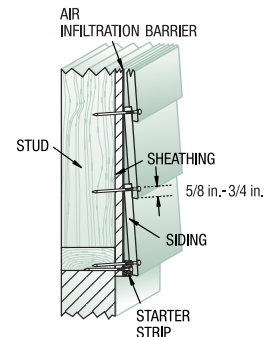

FIG. 5
- **Note: For Self-Aligning Lap Siding** place the self-aligning lap edge on the top of each additional course; make sure the self-aligning lap joint is resting flat on the lower piece. *See Fig. 5.*